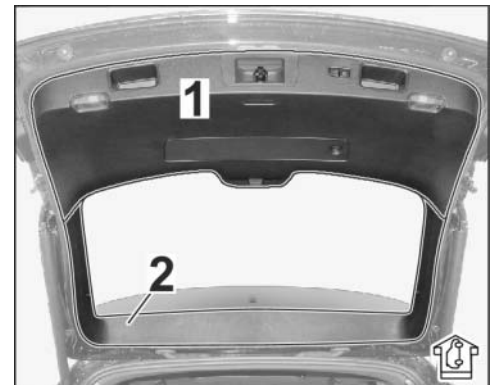

Figure 4
1.3 Rear lid area (⇒ *Figure 4*)